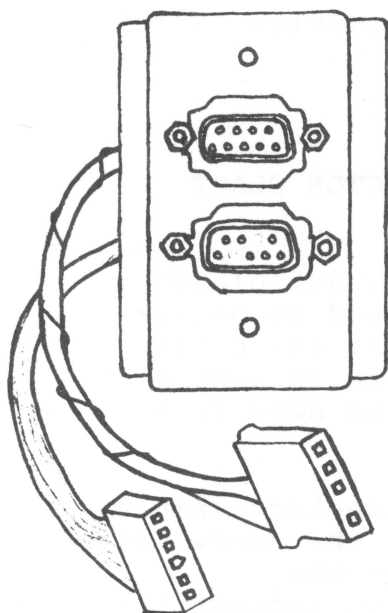

FIGURE 4
5. Attach the connector and nut plate, as you did in steps 2 and 3, to the bottom opening of the connector clamp. The assembled connectors are shown in Figure 4.